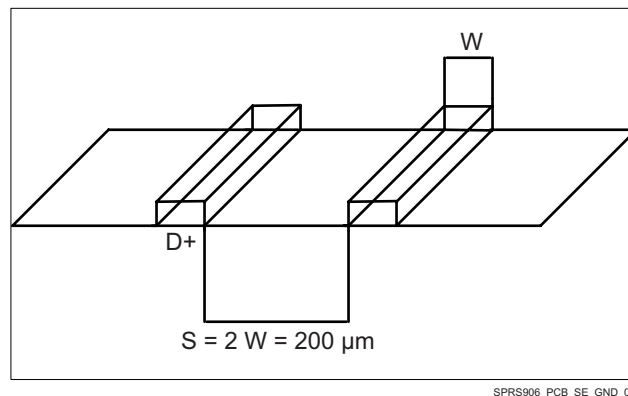

图 7-29. Ground Guard Illustration
- For a line width equal to  $W$ , the spacing between two lines must be  $2W$ , at least. This minimizes the crosstalk between switching signals between the different lines. On the PCB, this is not achievable everywhere (for example, when breaking signals out from the device package), but it is recommended to follow this rule as much as possible. When violating this guideline, minimize the length of the traces running parallel to each other (see 图 7-29).